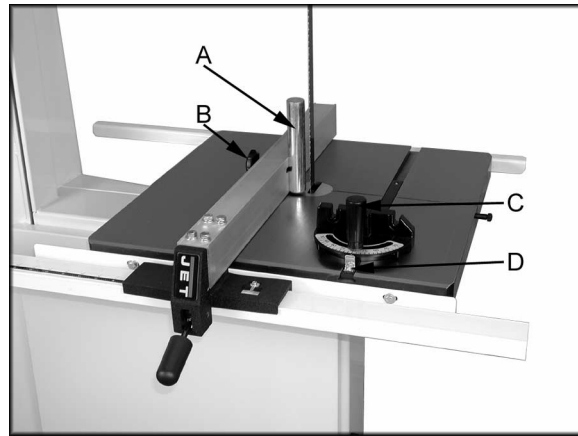

Figure 15
For resawing attach the post (A, Fig. 15) to fence with the lock knob (B, Fig. 15). There is a slotted hole in the fence that will accommodate the resaw kit. Position the post so that it is centered with the front edge of the blade.
3. If the miter gauge is not square to the blade loosen the lock knob (C, Fig. 15) and adjust to the proper setting. Tighten the lock knob.
4. If the pointer is not at 90 degrees, loosen the screw (D, Fig. 15) holding the pointer and move the pointer to 90 degrees.